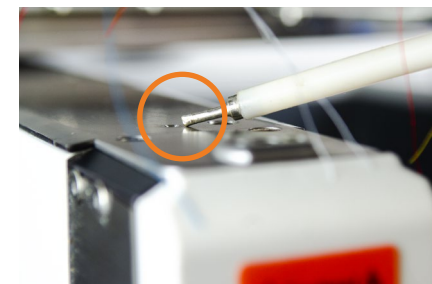

Figure 109
- Apply two to three drops of sewing machine oil to the two openings on the front and back of the sewing arm. **See Figure 109.**